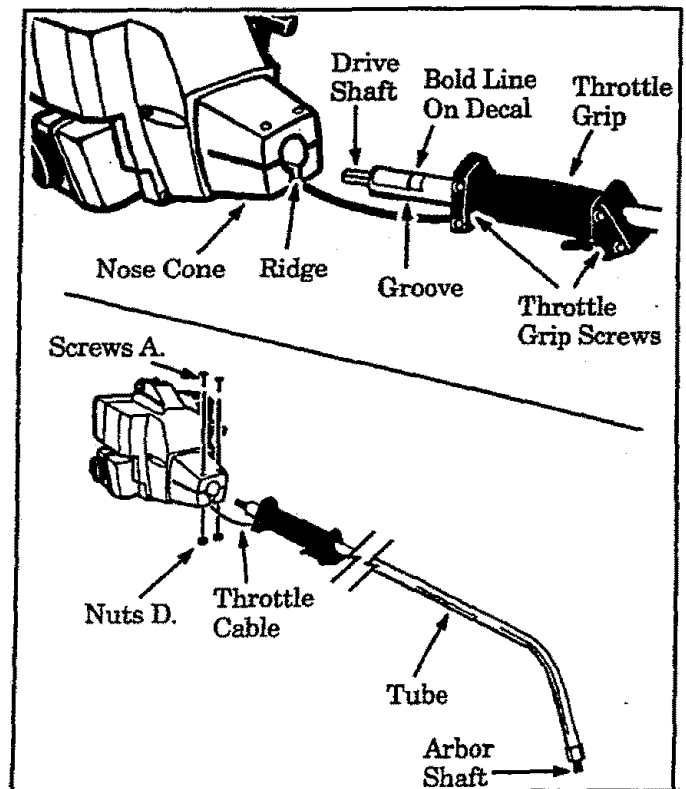

Figure 1
### 1. TUBE (Figure 1)
- a. Insert screws A. and nuts D. in the nose cone. Figure 1. Tighten with the hex wrench (provided) just enough to hold parts together.
- c. Insert the tube through the throttle grip as shown in Figure 1.
- d. Align the groove on the tube with the ridge on the inner, lower wall of the nose cone opening. Figure 1.